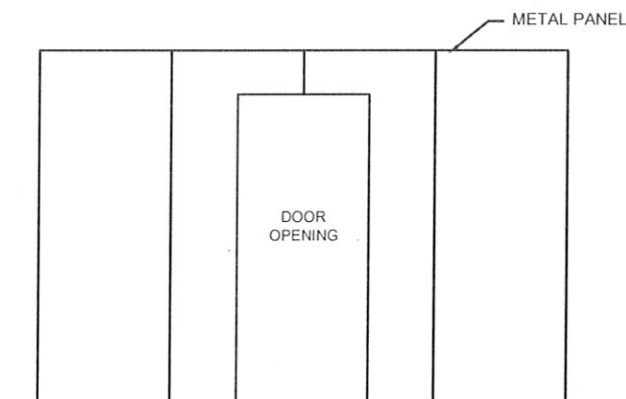

FIGURE 1
- 4.0 Mark door openings so they start on a full panel or in the centre of two (2) panels as shown in figure 1 and 2.